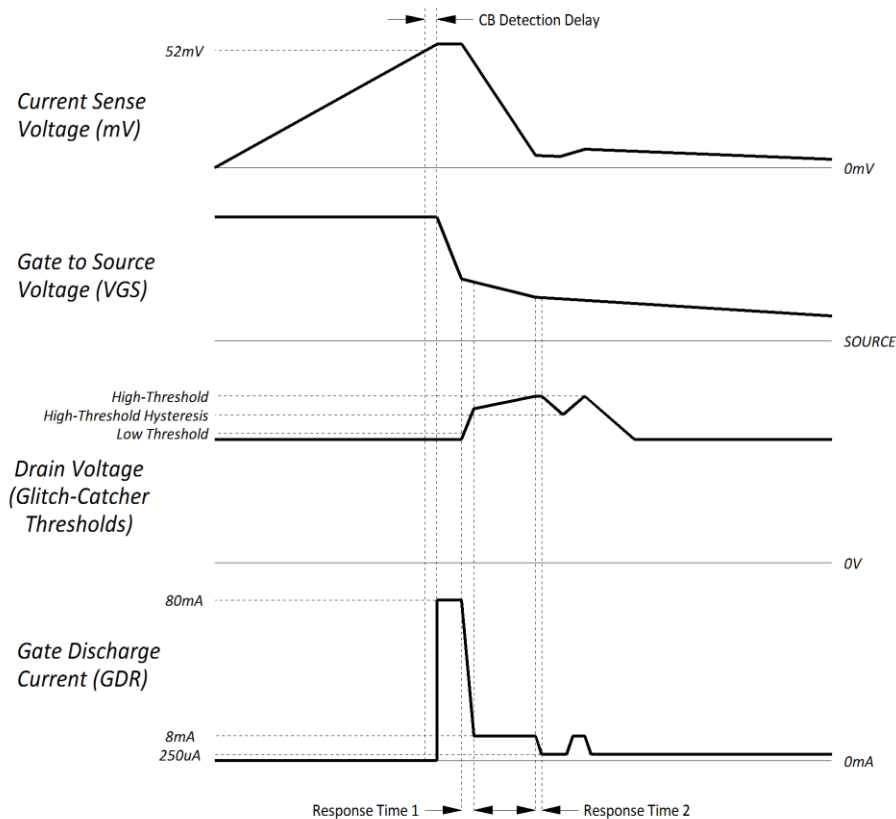

Figure 9 - Circuit Breaker (CB) and Glitch-Catcher™ waveforms.
Figure 9 represents the typical response waveforms of the PI2211 Glitch-Catcher™ to a circuit breaker (CB) event. After the CB detection delay, the MOSFET gate gets discharged
Sometime after the normal start-up an over-current event occurs, triggering the Glitch-Catcher™ turn-off of the MOSFET and the low assertion of the power good pin. See Figure 9 for further details.